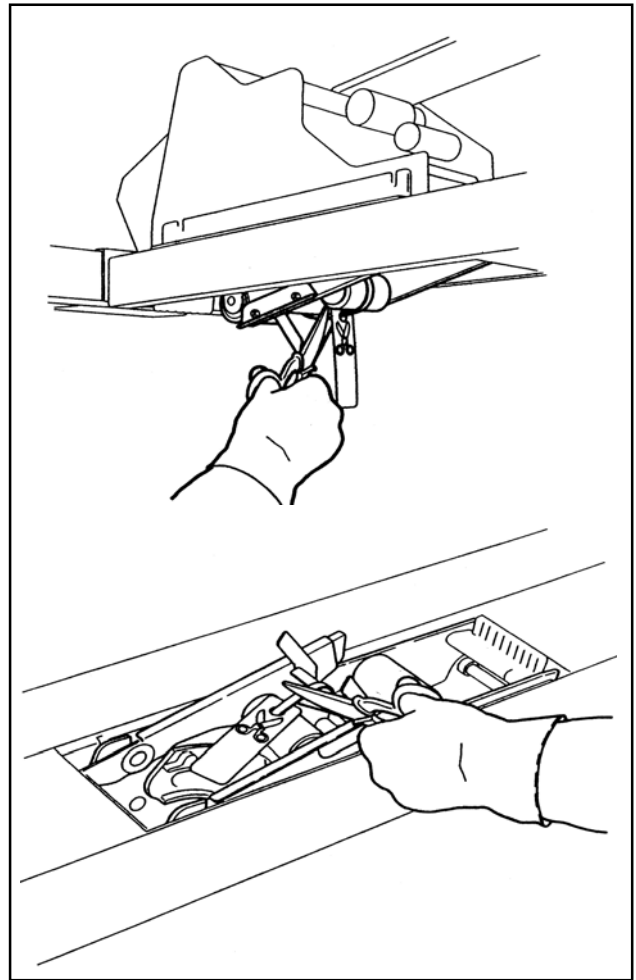

Figure 2-7—Cut the Plastic Ties
- Cut the plastic ties holding the upper and lower taping heads in position, as shown in Figure 2-7. Hold taping head buffing roller while cutting the plastic tie. Allow buffing/applying arms to extend slowly.